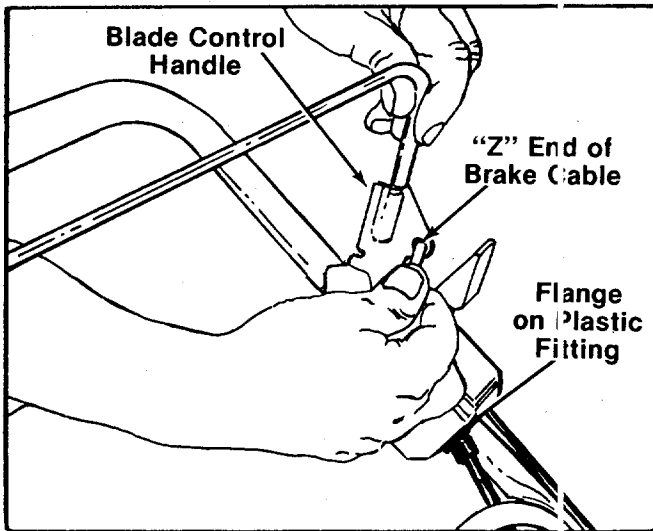

FIGURE 7.
9. Snap the plastic fitting on the end of the cable into the control housing. Hook the "Z" end of the brake cable into the hole in the blade control handle. See figure 7. If additional slack is needed in order to hook the cable into the handle, proceed as follows.